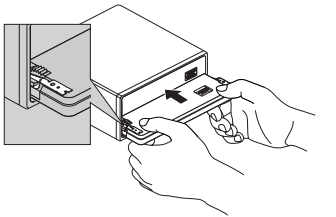

Fig. 12
2. Replace the front panel to the unit. (Fig. 12)